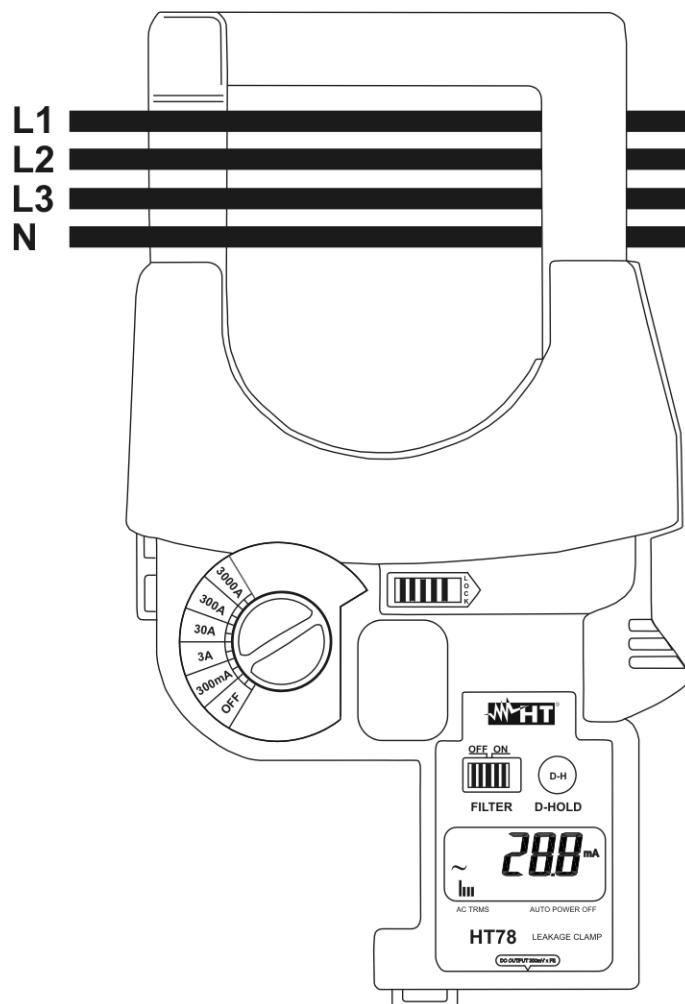

Fig. 5: Taking leakage current measurement on Three phase systems
- The cables L1, L2, L3 and N if use the **Differential** methos as shown in Fig. 5 obtaining the result as addition of instantaneous values of the currents flowing in the wires